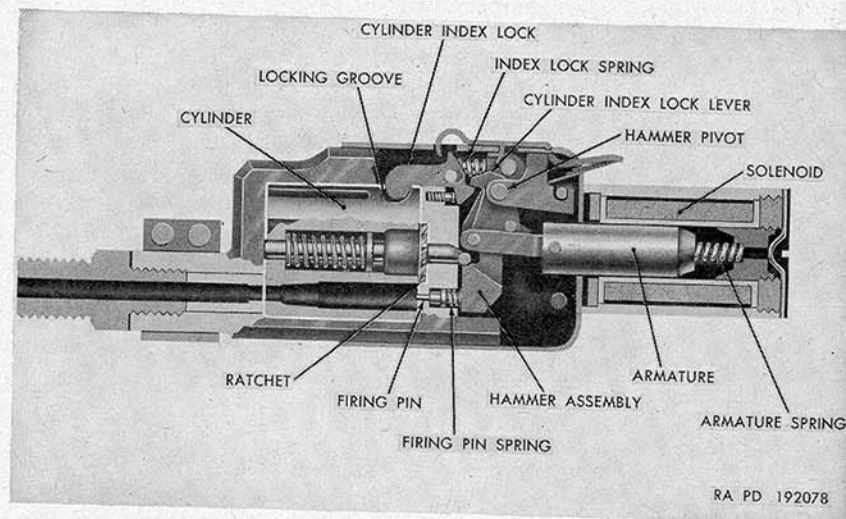

Figure 38. Cross-section view of charger.
a. General. The percussion charger T13 is used to cycle the gun in anticipation of initial firing. The cylinder of the charger is chambered to take the cal. .30 carbine grenade cartridge M6. Firing this cartridge develops sufficient gas pressure to cycle the gun once. The charger mechanism is actuated by a 24-volt direct-current source applied to the charger solenoid (fig. 38). The following phases of operation of the charger are described in the order indicated:
b. Application of the Current. When current from a 24-volt direct-current source is applied to the solenoid of the charger (fig. 38), through the connector (fig. 13), the armature is drawn into the coil, compressing the armature spring.
c. Cylinder Unlocking Action. As the armature is being pulled rearward, the cylinder index lock lever (figs. 38 and 39) pivots about the hammer pivot, forcing the cam end of the cylinder index lock downward. This raises the forward end of the cylinder index lock from the locking groove of the cylinder, unlocking the cylinder.
d. Cylinder Indexing Action. At the same time the cylinder index lock lever (fig. 38) is being pivoted, the indexing pawl lever is undergoing the same action on the opposite side of the charger (fig. 40). As the armature (fig. 38) is being pulled rearward, the indexing pawl lever is rotated clockwise about hammer pivot. The pivoting of the indexing pawl lever moves the indexing pawl pivot downward. The pawl spring applies a rotary force to the indexing pawl, which pivots on the indexing pawl pivot. The pawl cam prevents the pawl spring from rotating the indexing pawl forward; therefore, the pawl bears against the cam at all times. As the pawl pivot moves downward, the recessed portion of the pawl comes into contact with the pawl cam. This allows the pawl spring to move the pawl outward from the frame (fig. 41). Continued motion of the pawl lever causes the pivot to move straight downward. Just as the pawl is exposed from the frame, it engages the ratchet (fig. 38) on the rear of the charger cylinder. The downward stroke of the pawl causes the cylinder to index one chamber. This indexing action takes place just after the index lock (fig. 38) has been lifted from the cylinder.
e. Cylinder Locking Action. Continued rearward movement of the armature brings the beveled cam edge of the cylinder index lock lever in contact with the index lock (fig. 42). This allows the lock to snap past the index lock lever and be returned to its locked position by the index lock spring (fig. 38). This prevents the cylinder from rotating after the cartridge is in line with the firing pin.
f. Firing action. When the armature starts rearward, the hammer assembly is pulled rearward by the sear pin (fig. 43) which engages the sear. After the cylinder has indexed and been relocked in firing position, the sear contacts the sear stop which forces the sear off the sear pin. The hammer spring and plunger, which were being compressed as the armature moved rearward, drive the freed hammer assembly into the firing pin (figs. 43 and 44) by rotating it about the hammer pivot. The firing pin is then driven inward, compressing the firing pin spring (fig. 38), and firing the cartridge.
g. Cessation of current. When the current is stopped, the compressed armature spring (fig. 38) drives the armature out of the solenoid. This returns the cylinder index lock lever and the indexing pawl lever to their original positions. The index pawl (fig. 41)